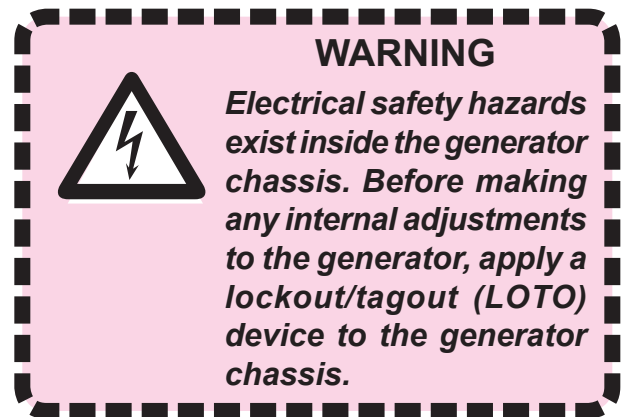

Figure 3-2 Bottom Lockout Device In Closed Position, Locked
Step 3. Ground the generator chassis with the supplied 14-Gauge wire. Attach one end to the grounding stud - **C** in Figure 3-2. Attach the other end to the nearest grounded metal pipe or equal earth ground.